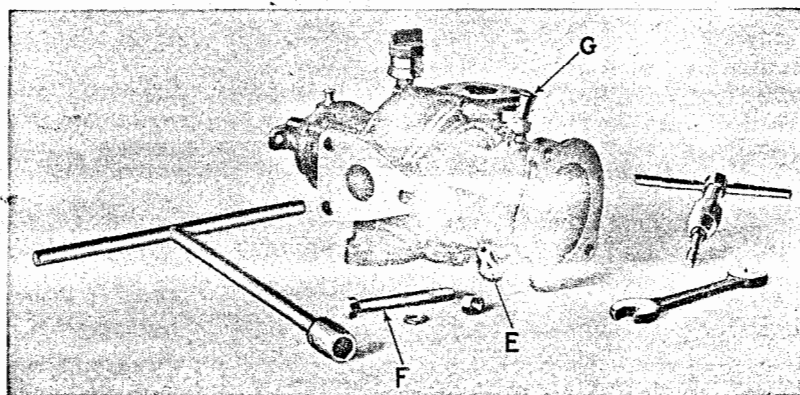

Fig. 44
To provide adequate lubrication an elbow (E) is to be placed in the overflow hole in the lower back side of the water pump cover. See Fig. 44. An overflow hole at this point is necessary as it establishes a safe level for the lubricant and prevents building up a pressure with the lubricator gun which would force lubricant through the front starter-generator bearing and into the starter-generator where it might get to the commutator and brushes and thus cause serious damage. However, it has been found that this lubricant level can be raised somewhat and that the lubricant is retained longer if the overflow hole is trapped. Both of these objects are obtained by the use of the special elbow L-9168-R in the old overflow hole.
To install the elbow, carefully hand tap the overflow hole with a $\frac{1}{8}$ " pipe tap so that threaded end will not project more than $\frac{1}{8}$ inch above inside of housing. No drilling will be necessary. Remove the clamp screw (F) and screw in the elbow until tight, and shank stand vertically. See Fig. 44. In some cases it may be necessary to file off the corner of the clamp screw boss to clear the elbow as it is screwed in.
The old style clutch was lubricated through the front oiler on the starter-generator. The new style clutch also receives lubrication through the lubricator connection (G) Fig. 44.